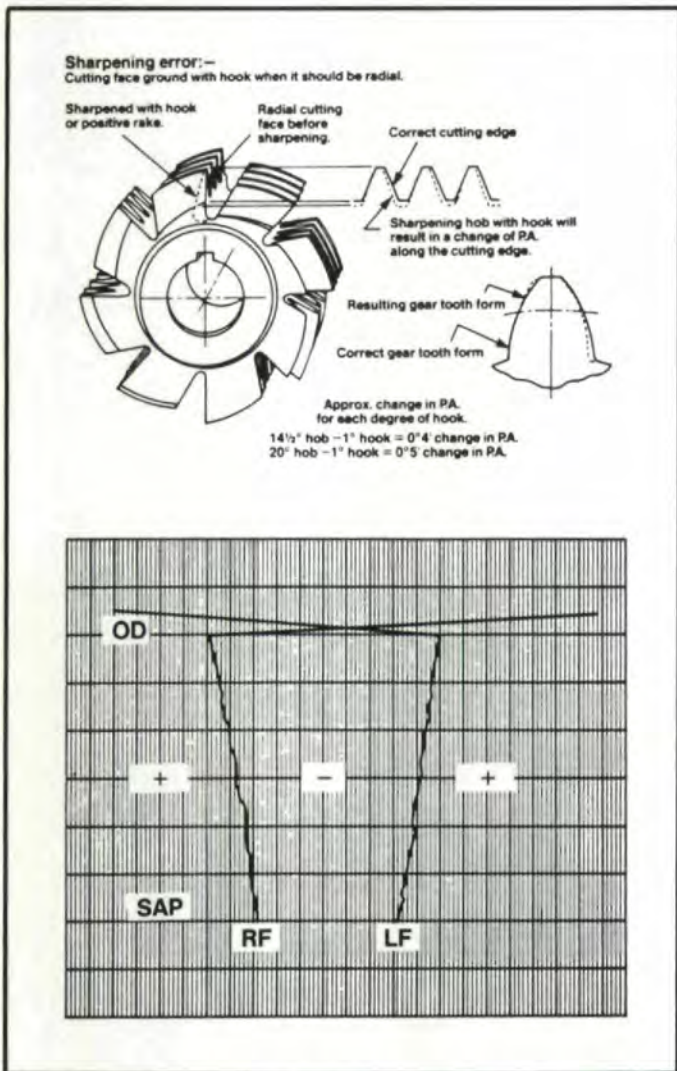

Fig. 15—Effect of negative rake resharpening error on profile.
2. The hob cutting faces sharpened with negative rake (Fig. 15)
Figs. 15 and 16 show two common resharpener errors on radial rake designed hobs — positive and negative rake. The effect of positive or negative rake sharpening on a radial rake designed hob is a change in the pressure angle of the basic rack form of the hob. This produces either a lesser or greater pressure angle on the gear tooth, which can result in excessive gear wear, gear noise and shock loading.